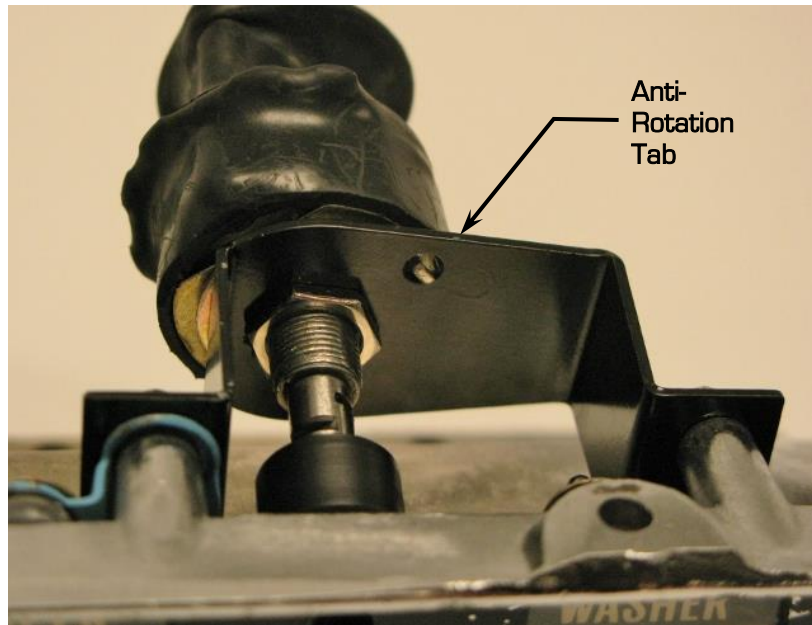

Figure 14 – Tighten Switch Nut
21. With the anti-rotation tab of the switch locked in place on the switch adapter, tighten the hex nut onto the wiper switch (Figure 14).